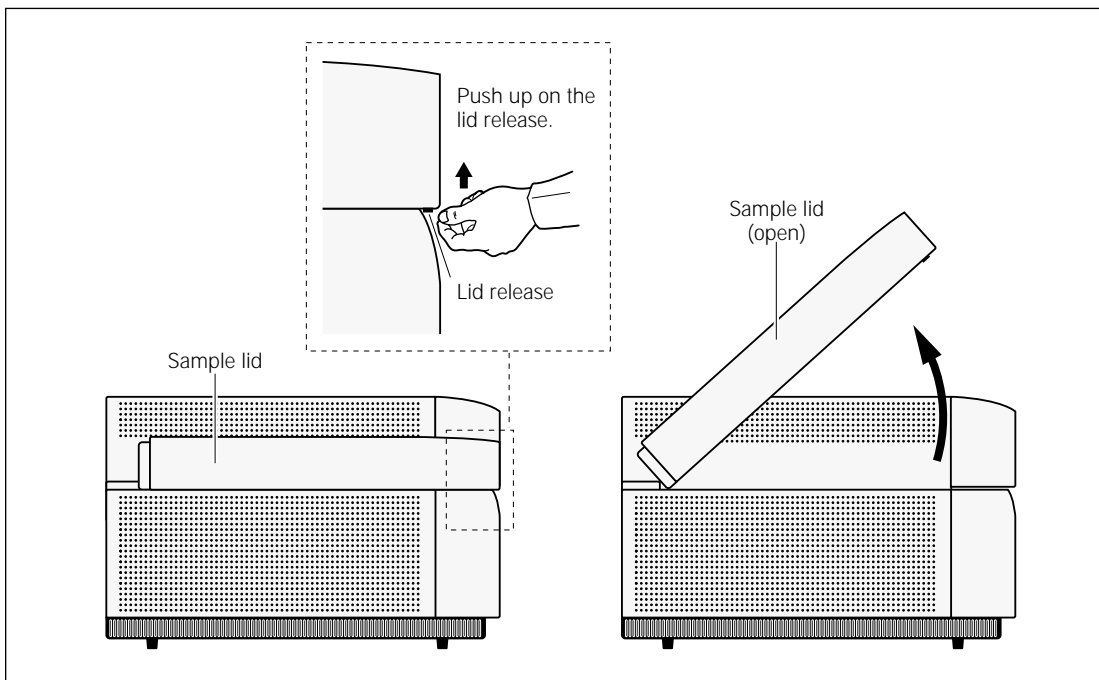

Figure 11-1. Releasing and opening the sample lid.
1. Push up on the lid release under the center front of the sample lid until the lid opens (figure 11-1).
1. If the sample lid is not already open, push up on the lid release under the center front of the lid until the lid opens (figure 11-1).